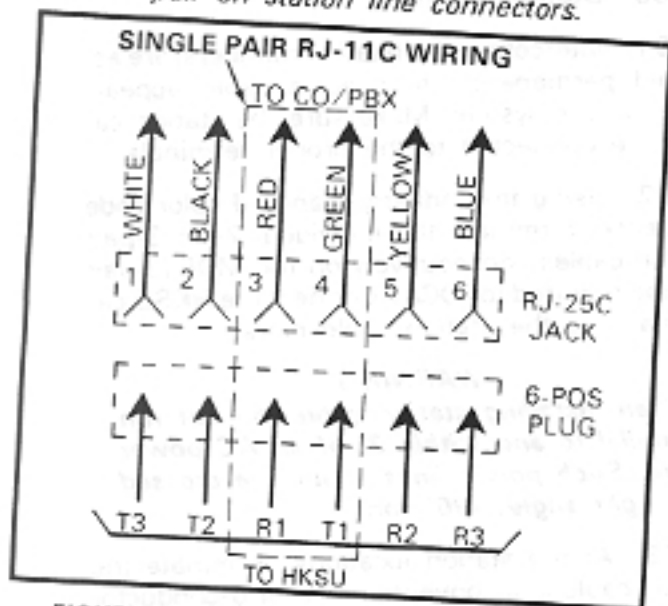
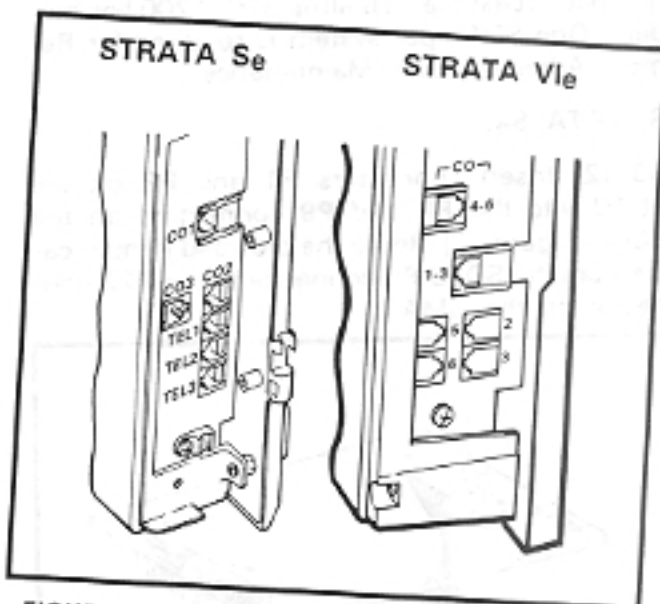

FIGURE 15—RJ-11C/RJ-25C COLOR CODE
FIGURE 16—S_e/V_{1e} HKSU RIGHT SIDE PANEL
06.04 Various manufacturers of modular station blocks have employed different color codes to indicate the sequence of pairs in their blocks. However, the color code most commonly used is shown in Figure 15. Verify the configuration
06.11 The CO/PBX lines are connected to the system via 6-wire modular line cords (no longer than 25') that are connected directly to the HKSU's right side panel (Figure 16)—CO1 modular connector on S_e; 1-3 and 4-6 modular connectors on V_{1e}. The opposite end of each cord
then terminates directly into a locally provided RJ-25C jack (Figure 15).
06.12 The CO/PBX lines may also be connected via 2-wire modular line cords to connectors CO1, CO2, and CO3 (S_e) or connectors 1-3, 4-6, 2, 3, 5 and 6 (V_{1e}) on the right side panel (Figure 16). The opposite end of each cord then terminates directly into a locally provided RJ-11C jack (Figure 15).